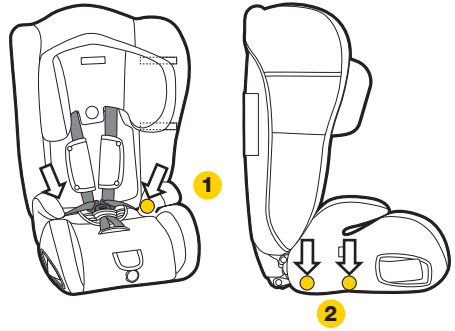

Figure 4
Step 2: Unclip the press studs located (refer Figure 4);